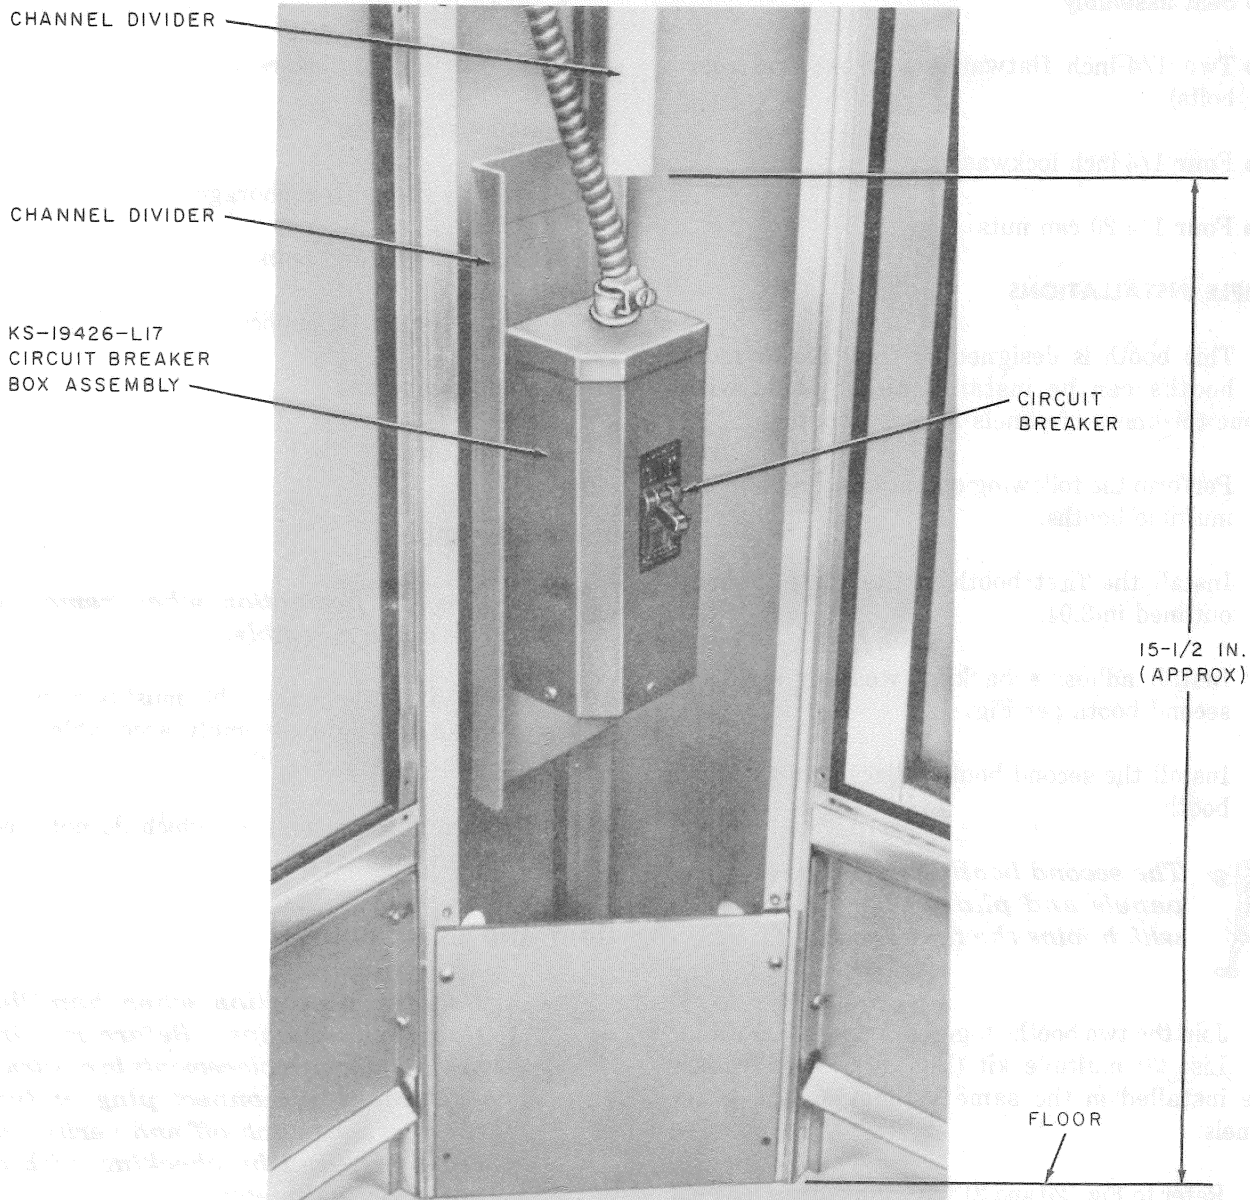

Fig. 19—KS-19426, List 17 Circuit Breaker Box Assembly, Installed
3.12 Remove corner panel below shelf and telephone mounting plate (Fig. 19).
3.13 For older booths only—Cut channel divider approximately 15-1/2 inches above floor of booth and bend to left side of channel (Fig. 19) by hand. The cut may be made with a keyhole saw (hand or powered) or sabre saw with a long blade. Care should be exercised to prevent break at bend.
3.15 Mount circuit breaker box assembly e/w circuit breaker on channel divider (Fig. 19).